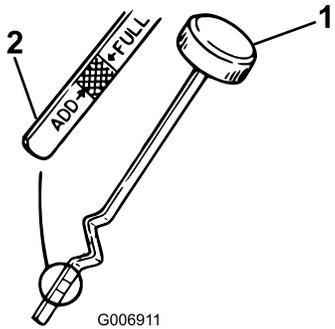

Figure 28
- Unscrew the oil dipstick and wipe the metal end clean (Figure 28).